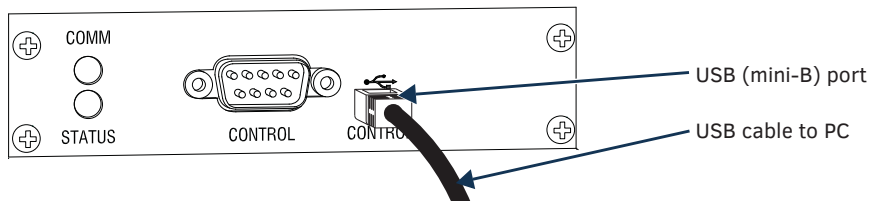

FIG. 14 USB cable connected to USB port on Epica DGX 288 and to PC
3. Connect the enclosure to a PC running Windows with USB cable (FIG. 14).